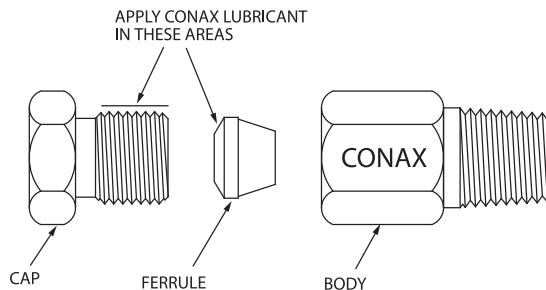

Figure 1
1. Apply a small amount of lubricant, a tear drop equivalent, in two to three places, equally spaced, to the ferrule top. Refer to Figure 1.
2. Apply a single line of lubricant to the full length of the straight thread on the cap. Refer to Figure 1.